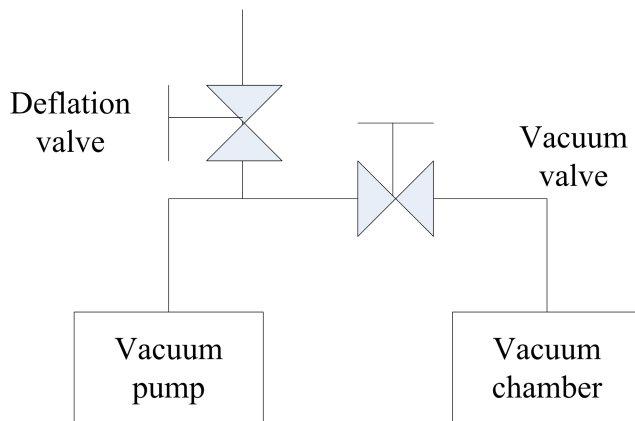

Figure 2. mechanical connection
- ◆ Vacuum valve and deflation valve should be set between vacuum pump and vacuum chamber.(see figure 2 mechanical connection )